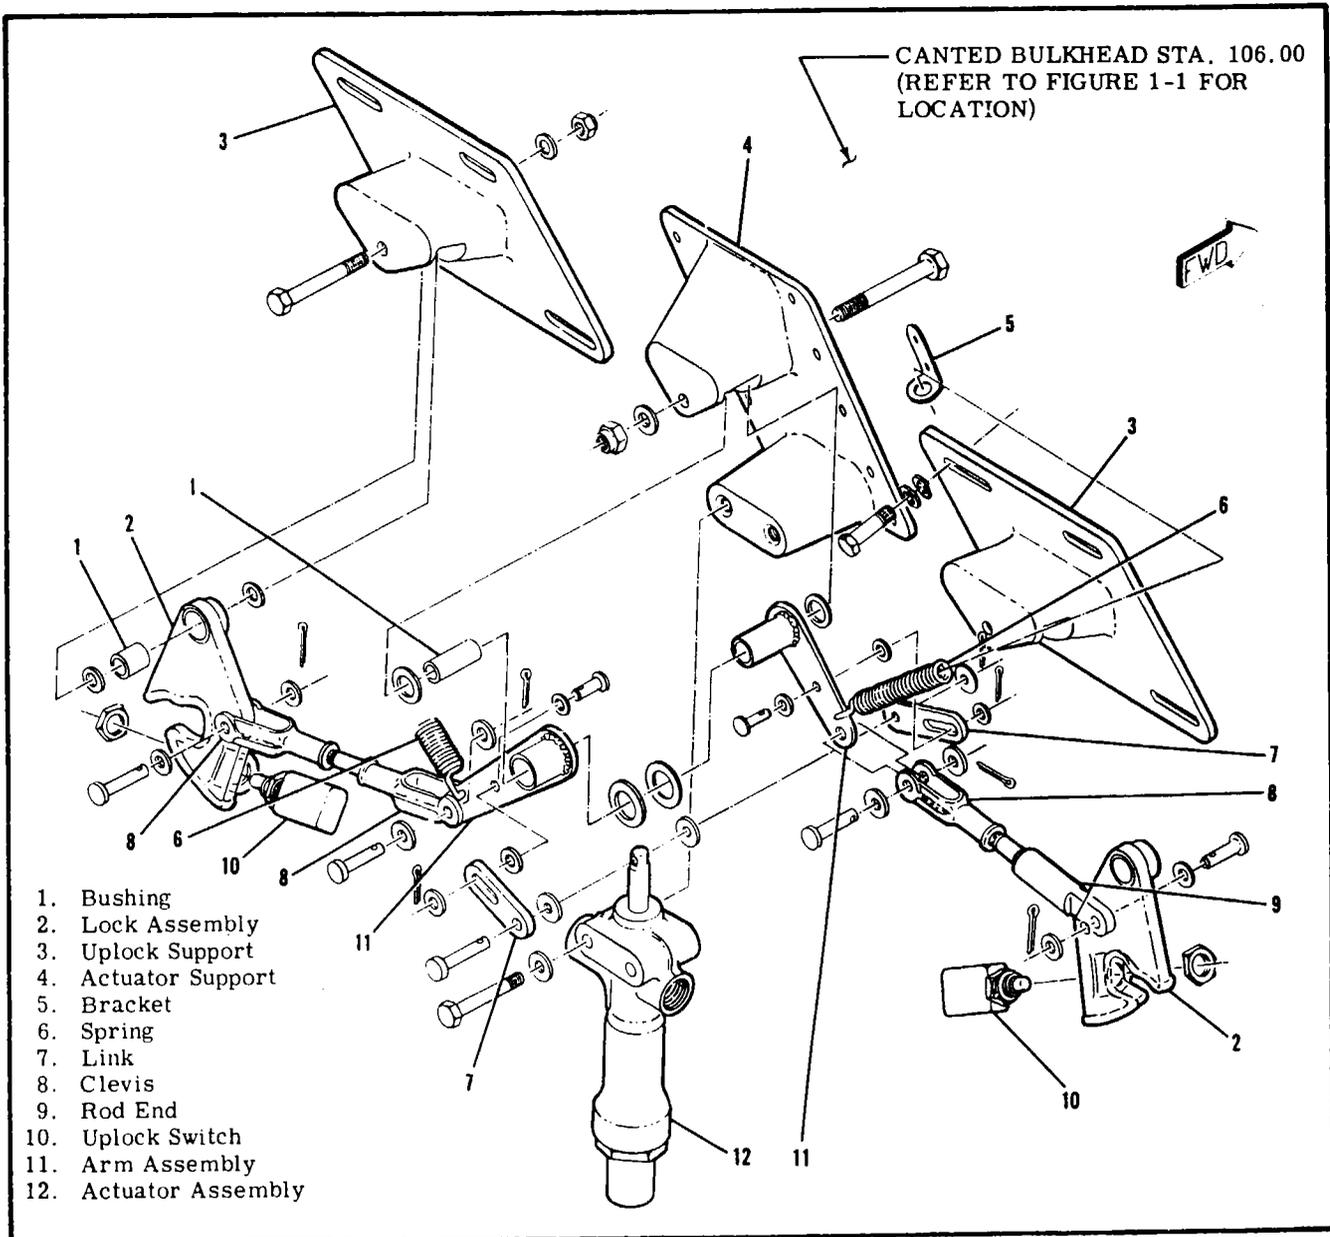

Figure 5-4. Main Landing Gear Uplock Installation
5-22. UPLOCK MECHANISM. (Refer to figure 5-4.)
c. Components may be removed or installed using figure 5-4 as a guide.